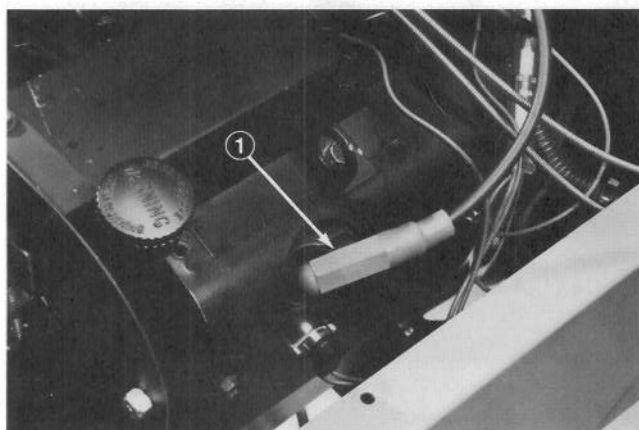

Figure 69
2. Pull high tension wires off spark plugs and remove plugs from cylinder head (Fig. 69).